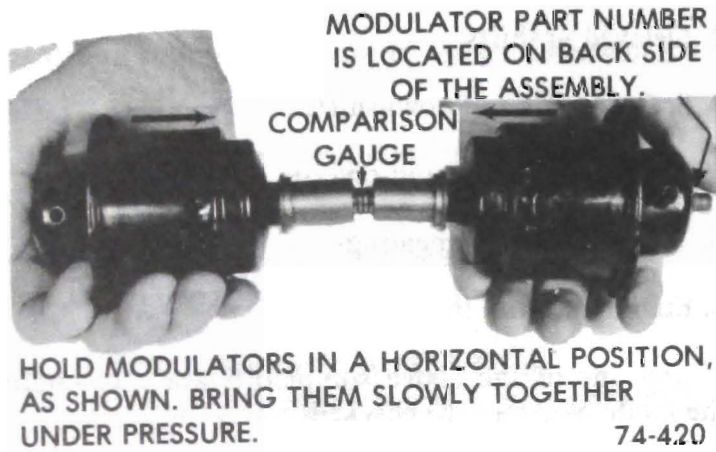
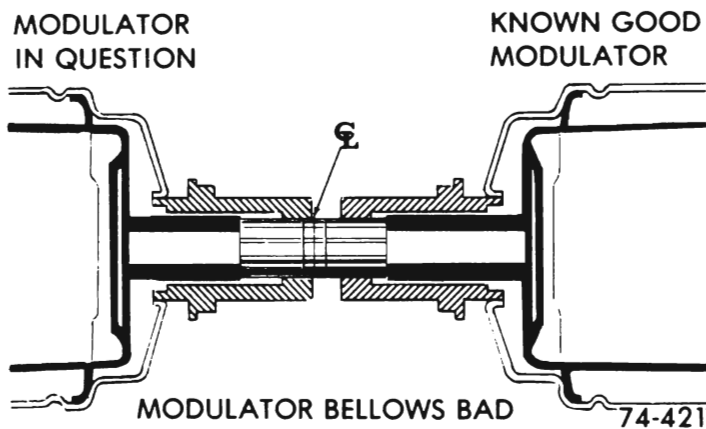

Figure 75-2 - Holding Modulator in Horizontal Position
Figure 75-3 - Modulator Bellows - (Bad)
b. Holding the modulators in a horizontal position, see Figure 75-2, bring them slowly together under pressure. The modulator bellows in question, if defective, will reach the center line of the comparison gage before the known good modulator lines up with the outer gage line. See Figure 75-3.